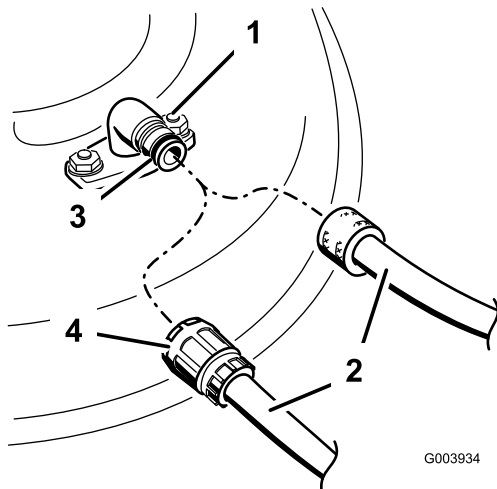

Figure 21
4. Attach a hose to the washout fitting, and turn the water on high (Figure 21).